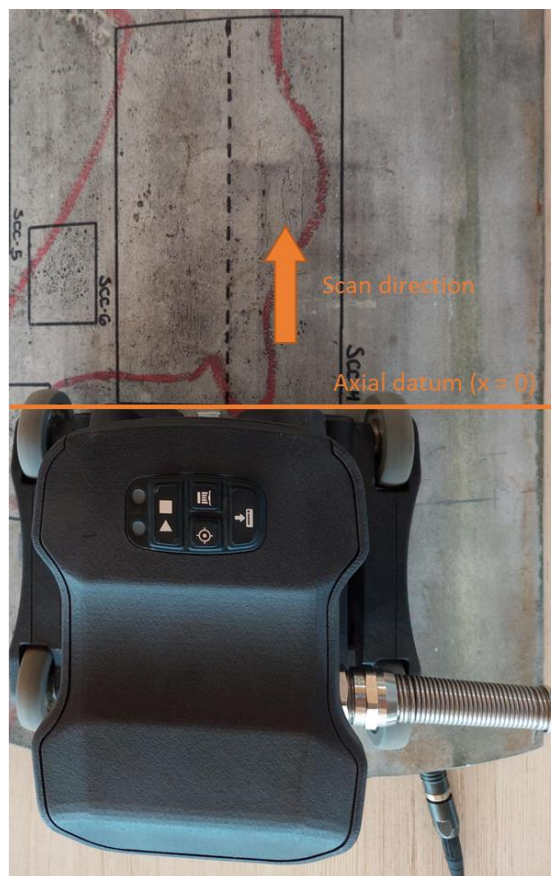

Figure 4. Recommended position of the Sharck-HR at the start of a colony inspection: the front of the Sharck-HR is aligned with the axial datum line.
- III) Align the front surface of the probe with the beginning of the area to scan (Figure 4).